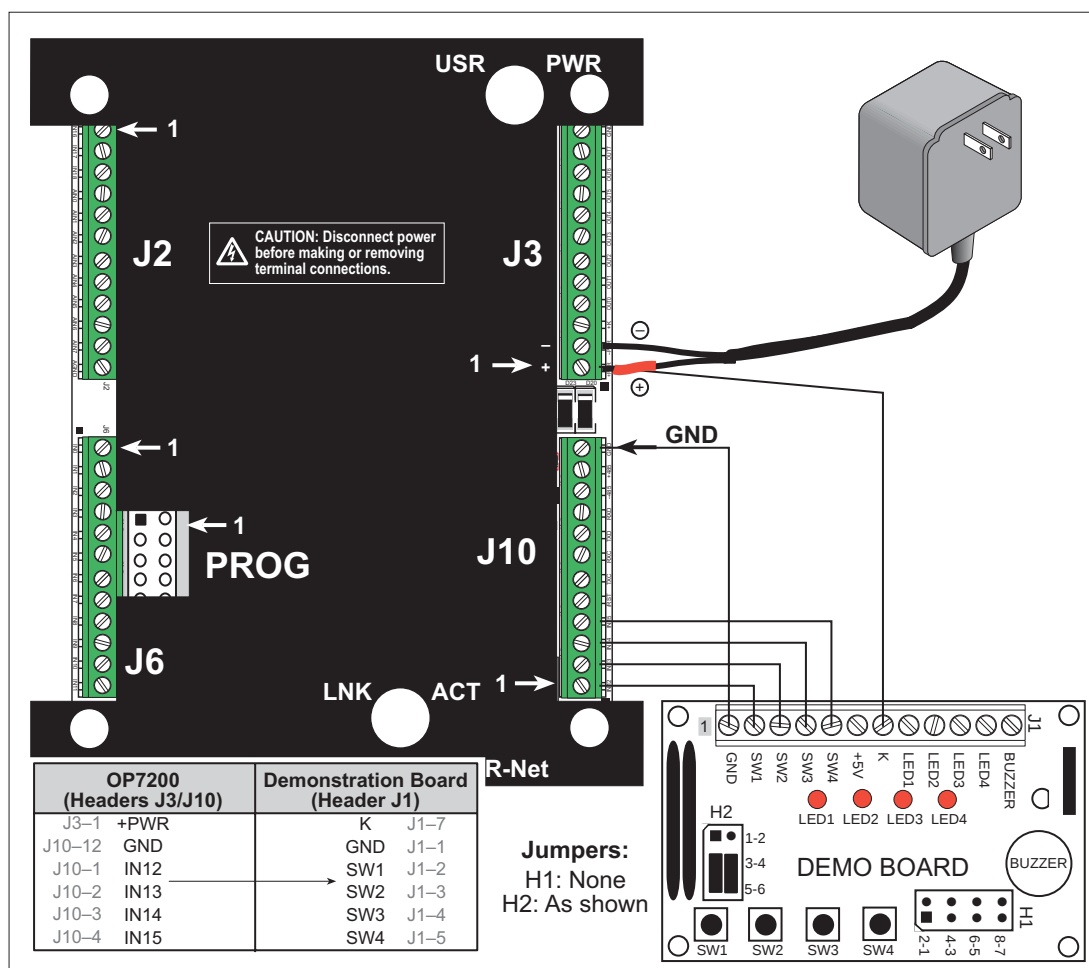
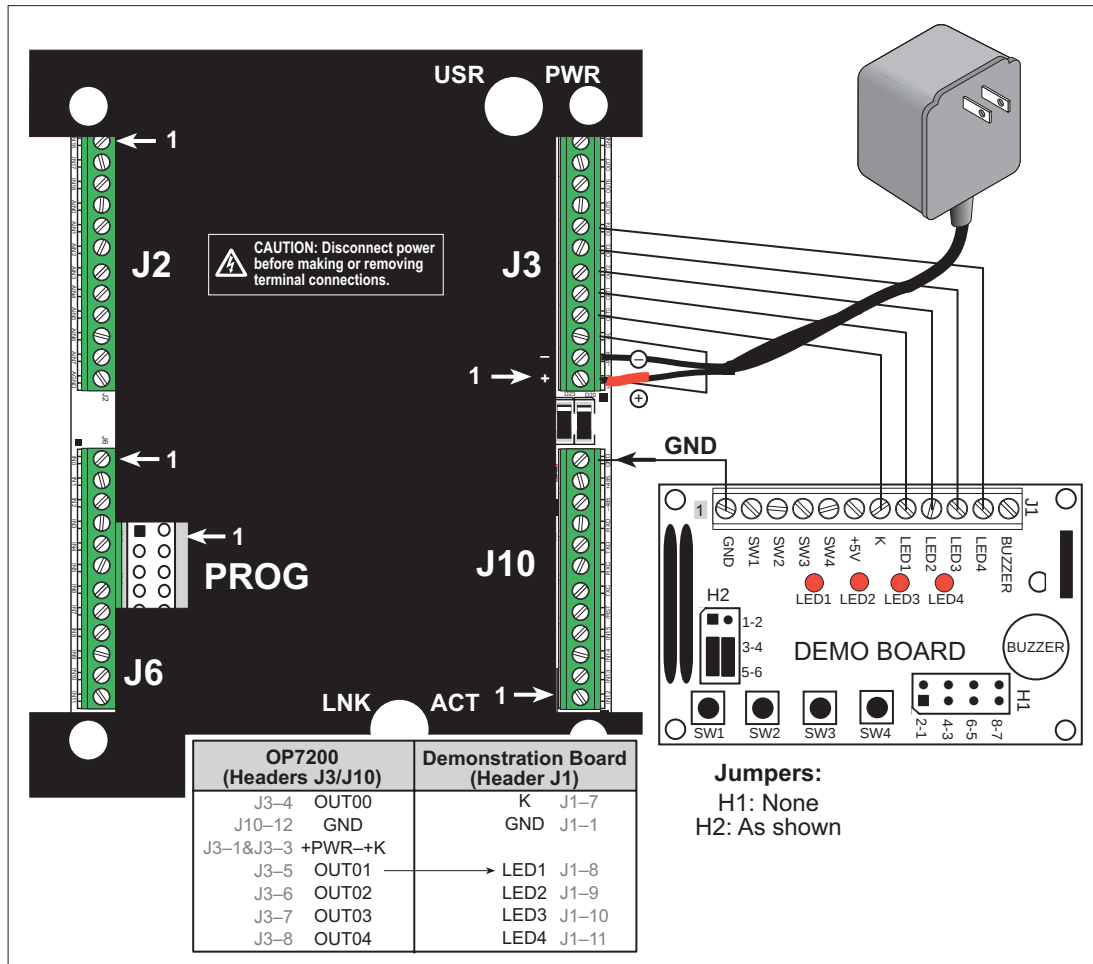
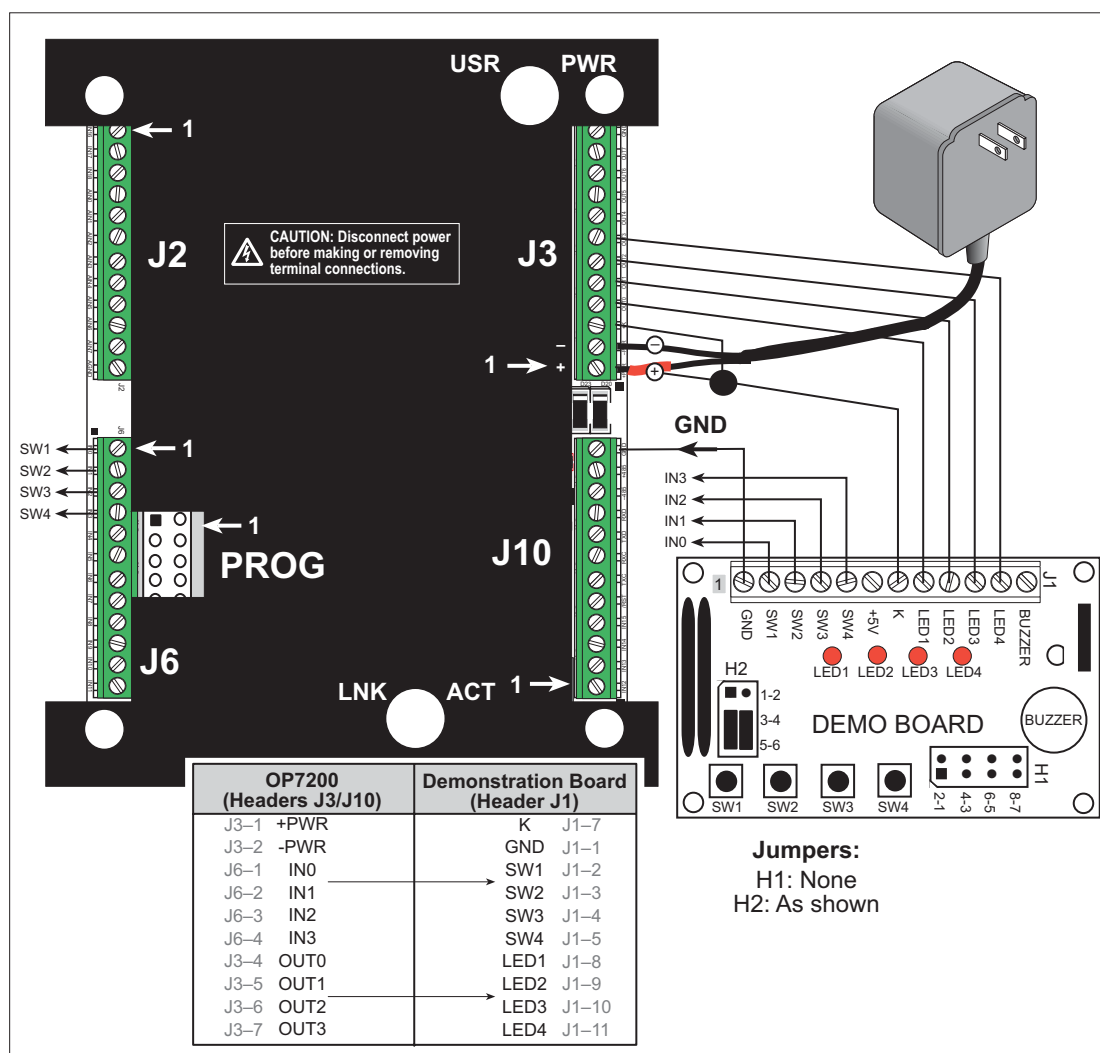

Figure C-1. Connections Between OP7200 and Demonstration Board for DIGIN.C Sample Program
Figure C-2. Connections Between OP7200 and Demonstration Board for DIGOUT . C Sample Program
Figure C-3. Connections Between OP7200 and Demonstration Board for TCP/IP Sample Programs
1. Use the wires included in the OP7200 Tool Kit to connect header J1 on the Demonstration Board to the OP7200. The connections are shown in Figure C-1 for sample program **DIGIN.C**, in Figure C-2 for sample program **DIGOUT.C**, and in Figure C-3 for the **OP7200\TCPIP** TCP/IP sample programs.